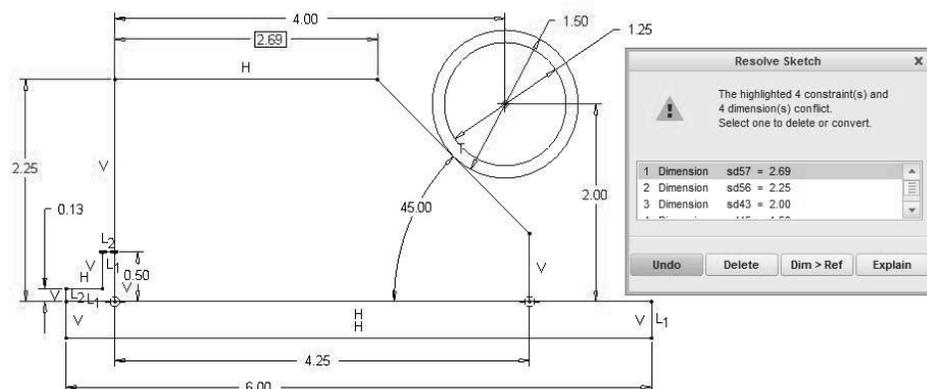

Figure 3-56 Resolve Sketch
- Step 16:** *Select* the horizontal line at the top of the jig with the LMB. Move upward a bit, then press the MMB to locate the dimension. Note that a “Resolve Sketch” window appears. See Figure 3-56. This appears because the sketch as defined is completely defined and we are trying to add another dimension. One of 7 constraints and 6 dimensions must be modified. A reference dimension is a dimension shown on a sketch that is not necessary to define the sketch. When the window appears, be sure the new dimension is highlighted, then *pick* the **Dim>Ref** button. *Pick* **OK**.